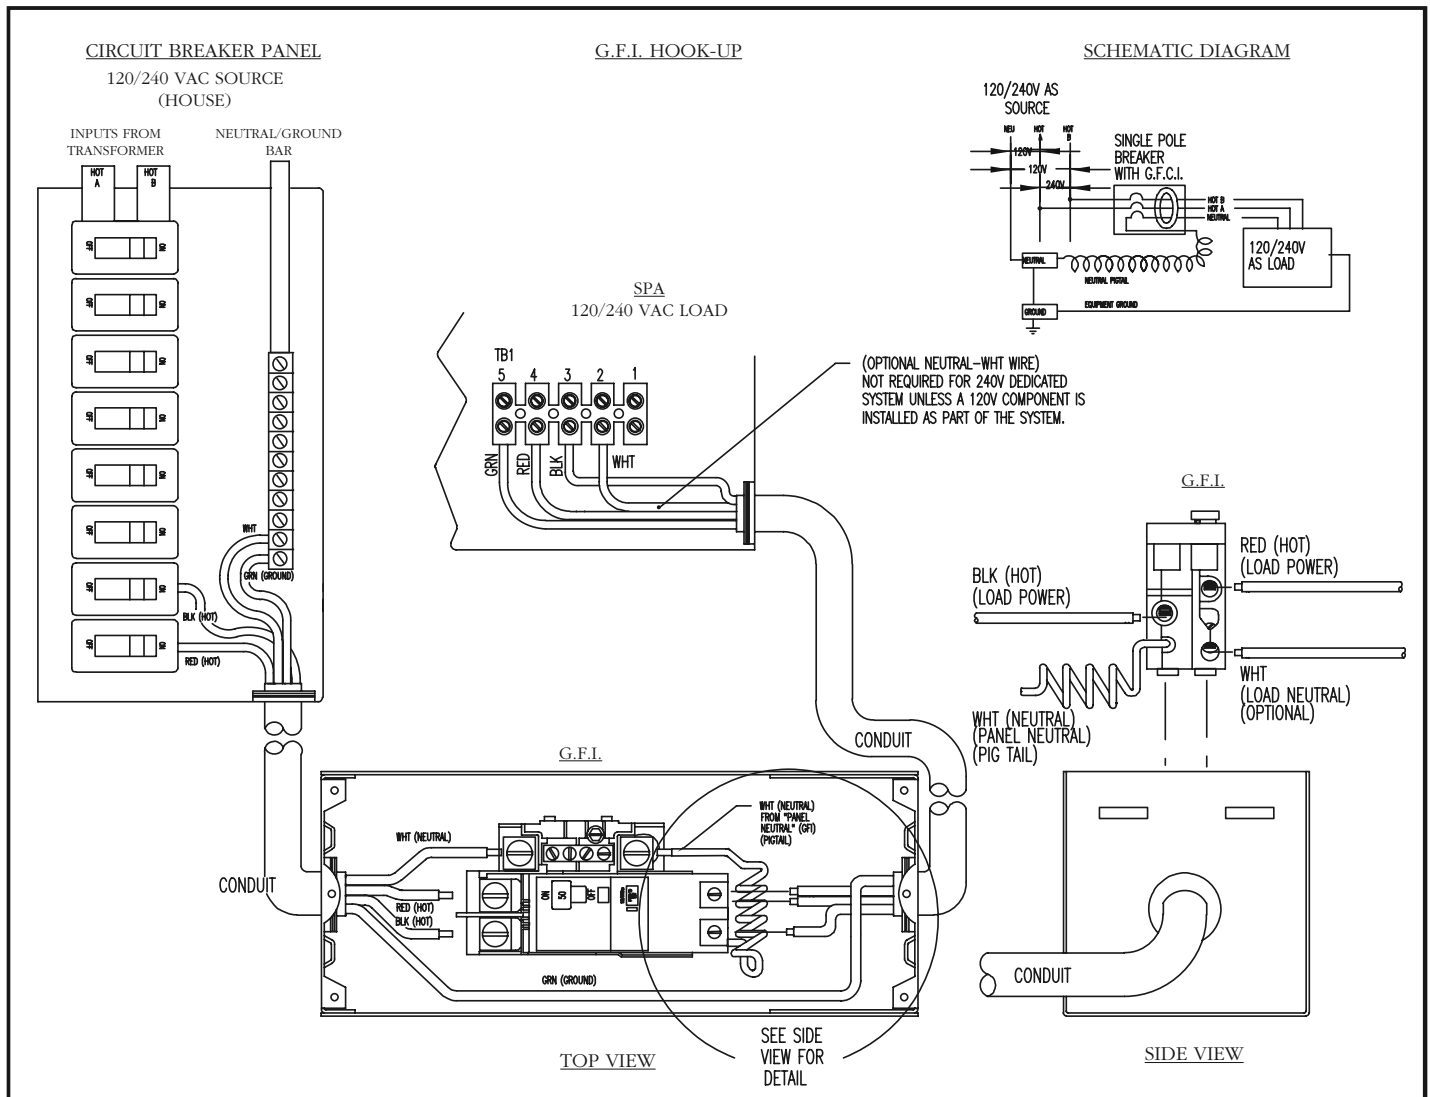

Figure 1
1. Follow the wiring diagram suggested for G.F.C.I. hook-up. See figure 1.